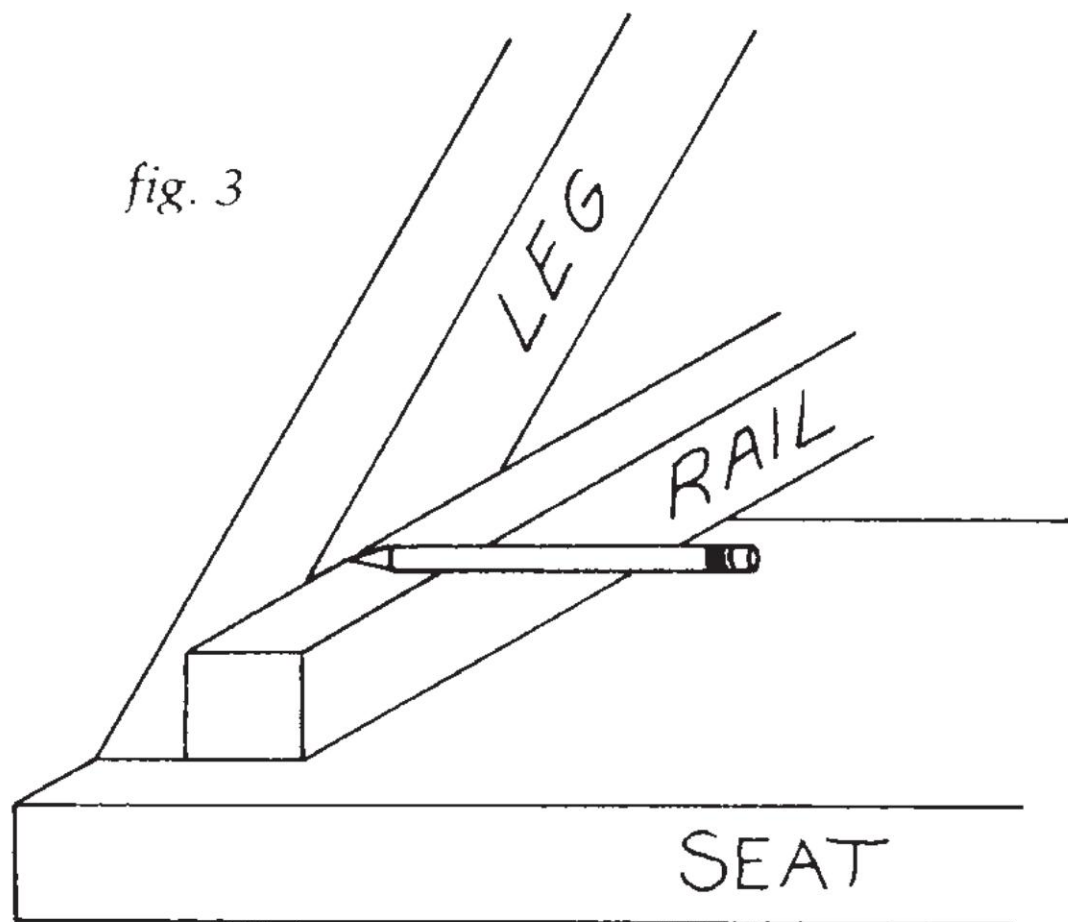

fig. 3
5. Lay out the rabbet joints at the tops of the legs. Hold each leg in place in turn. Placement may be determined by the dotted lines, marked **C**, in *fig. 1*. Draw a line along the leg where the top of the leg meets the side. See *fig. 3*.